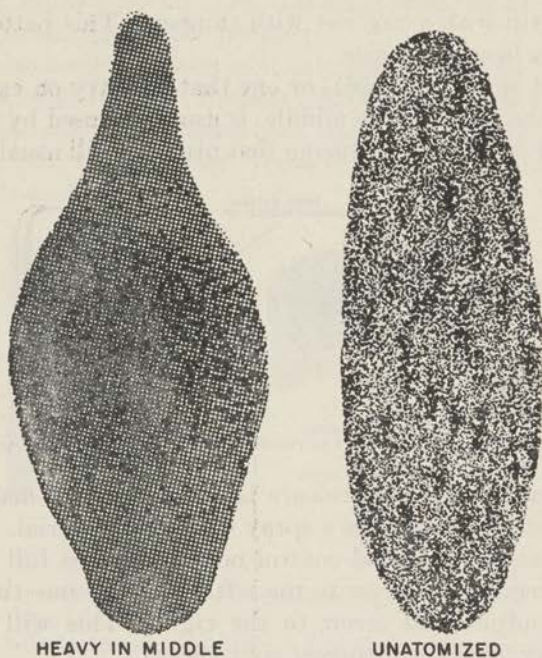

FIGURE 127.—Other faulty patterns.
(3) A fan-spray pattern that is heavy in the middle, or a pattern that has an unatomized "salt and pepper" effect (fig. 127), indicates that the atomizing pressure is not high enough.